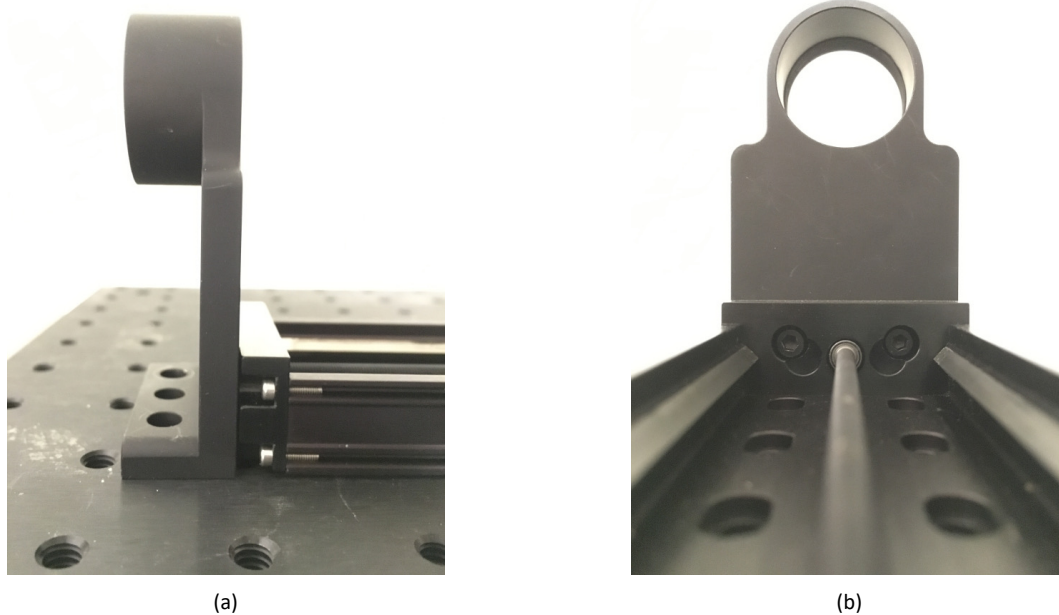

Fig. C.6: (a) Lens mount bracket attaches to end of stage (b) Two M3-0.50×8 screws are used to attach the lens mount bracket
3. Attach the **M2DU-WC-LMB** lens mount bracket to the front of the M2DU stage using two M3-0.50×8 screws as shown in Fig. C.6.